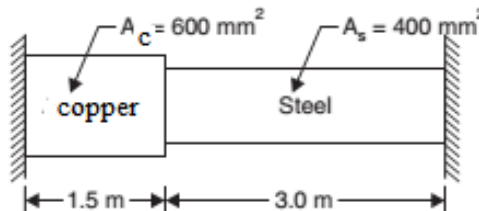

Fig.2
- 3 a) The composite bar shown in fig.2 is rigidly fixed at the ends A and B. Determine the reaction developed at ends when the temperature is raised by 25°C. Given $E_{cu} = 140$ kN/mm², $E_s = 200$ kN/mm², $\alpha_{cu} = 17.5 \times 10^{-6}/^\circ\text{C}$, $\alpha_s = 12 \times 10^{-6}/^\circ\text{C}$. (10)